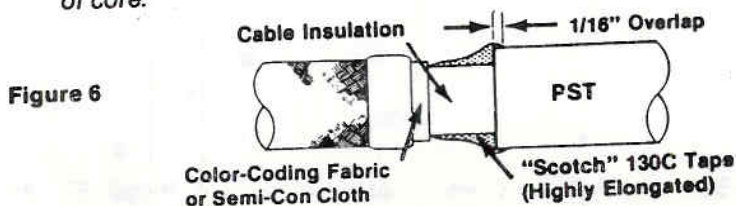

Figure 6
4. Apply highly elongated Scotch 130C Tape to cable insulation at ends of PSTs, forming tapers to PSTs. Extend tapers from cable color-coding fabric and/or semi-conducting cloth to $\frac{1}{16}$ " (2 mm) onto PSTs. (Figure 6) **FOR 15KV ONLY:** Extend tapers from cable color-coding fabric and/or semi-conducting cloth to PSTs. Wrap an additional 2 half-lapped layers of 130C Tape over PSTs.